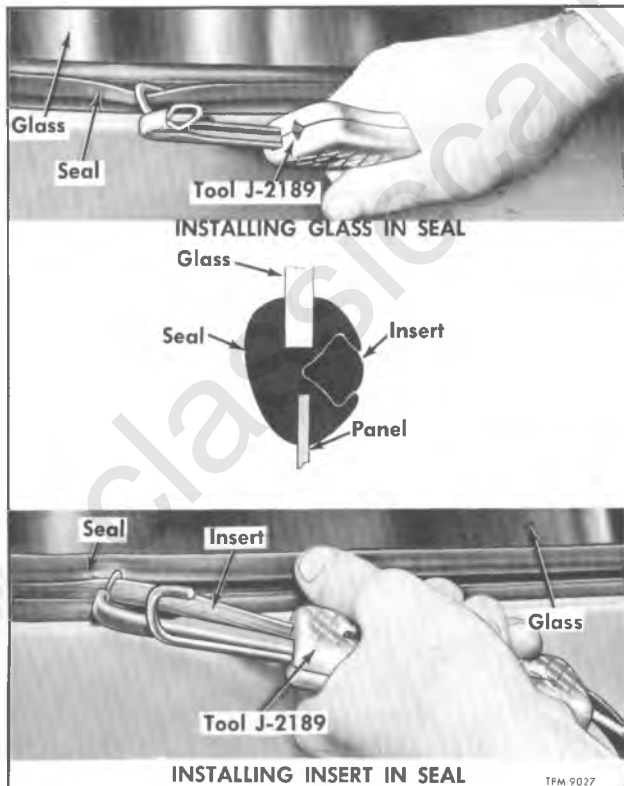

Figure 6—Installing Insert-Retained Glass (Tilt Cab Model)
Windshield glass is retained in cab opening by a molded rubber weatherstrip with an insert-type rubber seal as illustrated in figure 6. Two glass sections are used on steel tilt models.
Removal (Fig. 6)
Installation (Fig. 6)
1. Reposition rubber seal on cab opening flange. Raise new glass to outside of seal; then with hook end of installer tool (J-2189) in glass groove of seal as shown in figure 6, move tool around glass to force outer lip of seal over edge of glass.
2. Thread end of rubber insert through handle and loop of installer tool (fig. 6). Push tool loop and end of insert into groove of seal. Feed in rubber insert, while proceeding around window. Use a hitching movement of tool to avoid elongating insert. If new insert is being used, cut off insert allowing sufficient overlap for a tight joint; then butt into groove.
Rear window glass is retained by means of rubber seal and seal insert (fig. 6). No sealing
4. Position glass to seal and insert hook end of installer tool (fig. 6) into seal groove. Move tool around glass to force outer lip of seal over glass.
5. Thread end of rubber insert through handle and loop of installer (fig. 6). Push tool loop and end of insert into groove at bottom center of window. Feed in the rubber insert while proceeding around window. Use a hitching movement to avoid elongation of insert.